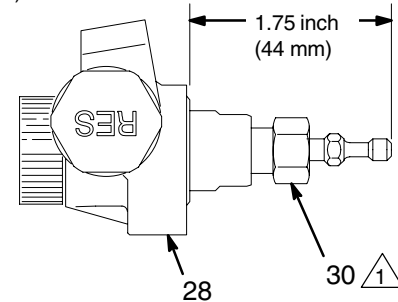

Fig. 8
7. Adjust the needle so it protrudes 1-3/4 in. (44 mm) from the rear of the housing. See Fig. 8.
8. Screw the nozzle retainer (30) snugly into the back of the housing (28). Torque to 25-35 in-lb (2.8-3.9 N•m) using the 1/2" end of wrench (35). See Fig. 8.